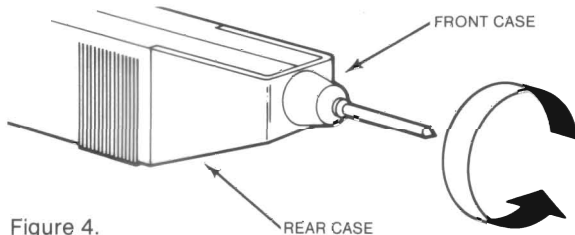

Figure 4.
2. Remove test lead and probe. (Figure 4)